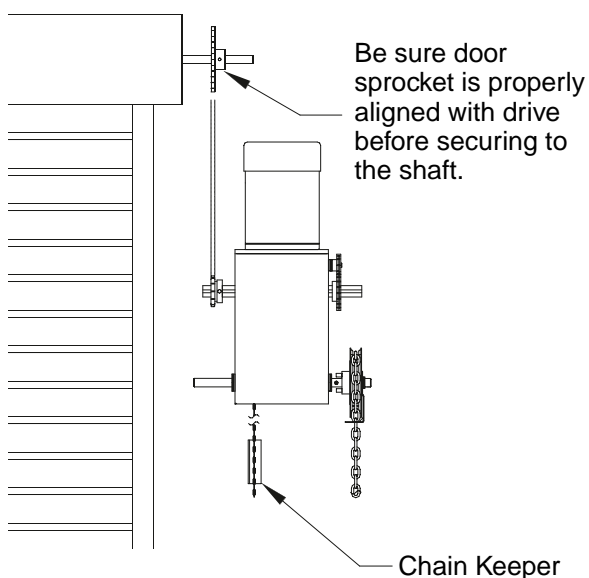

FIGURE 5
6. Align sprockets and secure, (see Figure 5).